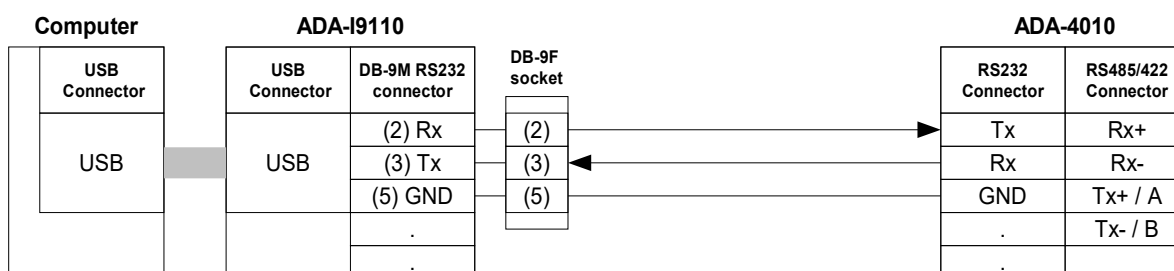

Fig. 4. ADA-4010 connection to PC by the use of USB to RS232 converter ADA-I9110/ADA-I9111
- to USB computer's port, should be use additional converter USB to RS232 – ADA-I9111 or ADA-I9110, connected to RS232 ADA-4010 port like on the fig.4.